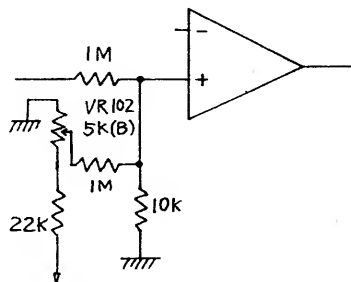

Fig. 3
- 1) Adjustment of frequency depends on the adjustment of the offset voltage of the operational amplifier (refer to Fig.3). Turning VR102 counterclockwise (resistance value increases) lowers the frequency, turning VR 102 clockwise (resistance value decreases) raises the frequency.